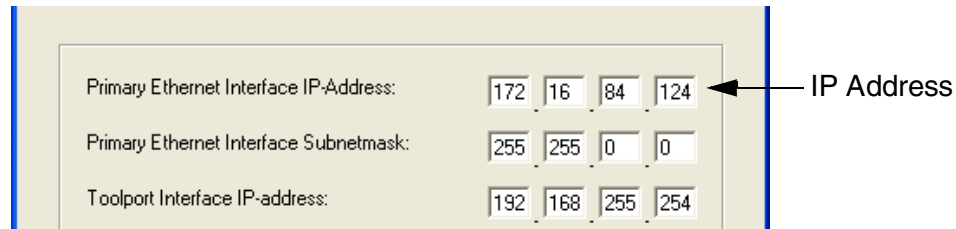

Figure 51. IP Config window for setting unique IP address.
- Enter a unique IP address (obtainable from your Control Network Administrator). Example: IP address 172.16.84.124, see Figure 51.